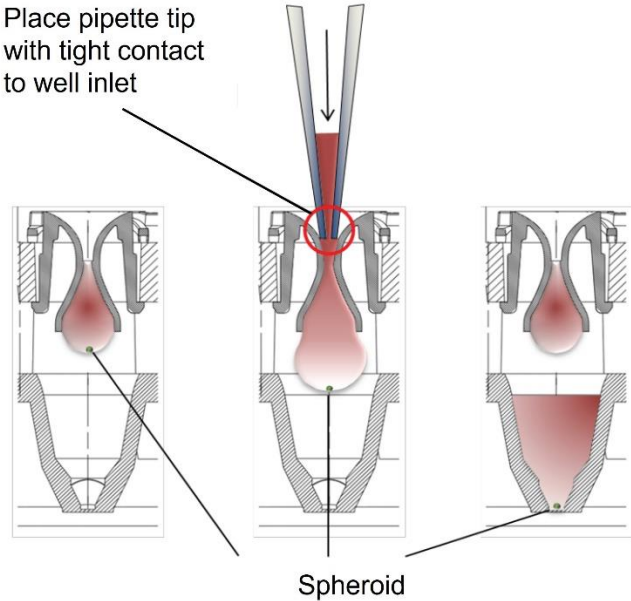

Figure 8: 3D cell culture model transfer from the Akura™ PLUS Plate into the Akura™ 96 Plate.
2. Slowly (i.e.,  $\leq 10$  µl/sec when using Integra Viaflo pipettes) add 70 µl of medium through the inlet of the Akura™ PLUS Plate wells. The pipette tips should be in direct contact with the well inlets by simultaneously applying a subtle pressure with the pipette. The drops will fall into the Akura™ 96 Plate (Fig. 8).